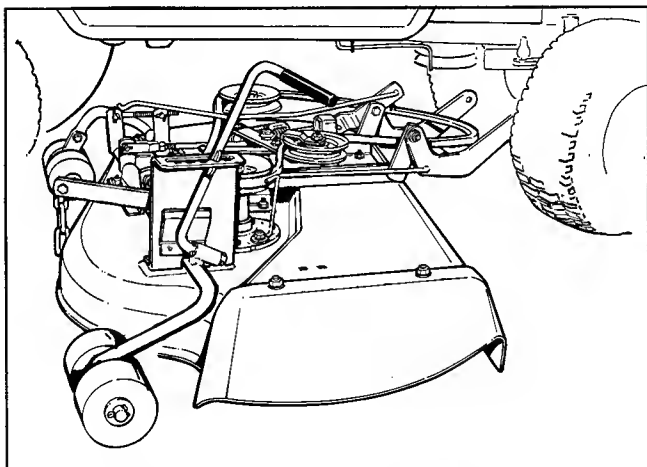

Figure 1. Installing 36" Mower
3. Slide the mower under the tractor (see figure 1).